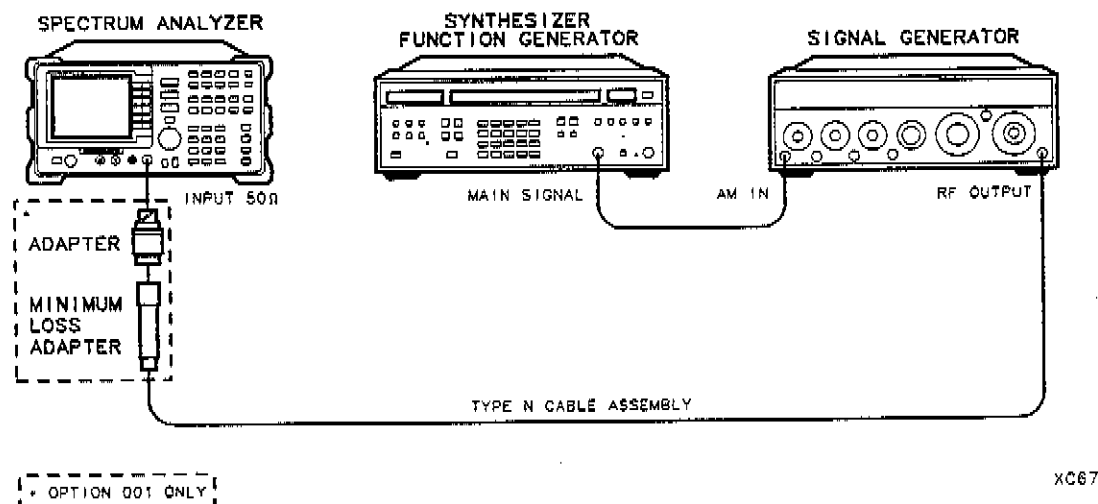

Figure 1-9. Sweep Time Accuracy Test Setup
3. Connect the equipment as shown in Figure 1-9.